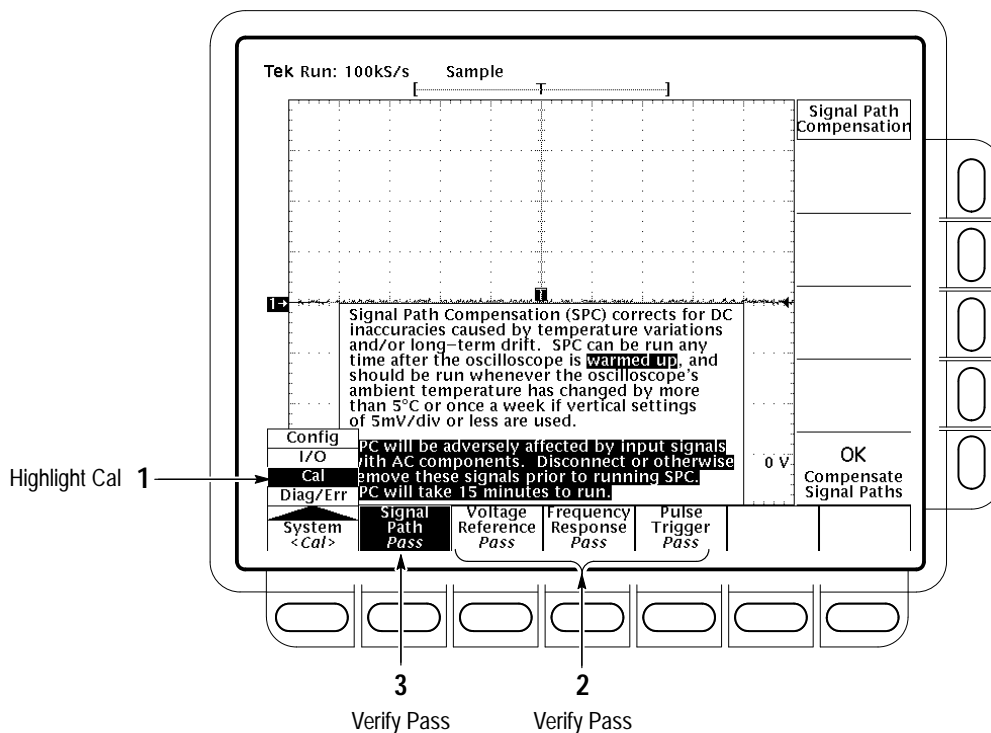

Figure 4–2: Verifying Adjustments and Signal-Path Compensation
- Refer to Figure 4–1: “Main menu” refers to the menu that labels the seven menu buttons under the display; “side menu” refers to the menu that labels
- Highlight **Cal** in the pop-up menu by repeatedly pressing the main-menu button **System**. See Figure 4–2.
- Verify that the word *Pass* appears in the main menu under the following menu labels: **Voltage Reference**, **Frequency Response**, and **Pulse Trigger**. See Figure 4–2.
- h. *Confirm signal-path compensation returns passed status:* Verify that the word *Pass* appears under **Signal Path** in the main menu. See Figure 4–2.
- The vertical scale readout for the channel under test shows a setting of 200 mV, and a square-wave probe-compensation signal about 2.5 divisions in amplitude is on-screen. See Figure 4–1 on page 4–3 to locate the readout.
a. *Hook up the signal source:* Install the probe on **CH 1**. Connect the probe tip to **PROBE COMPENSATION SIGNAL** on the front panel; connect the probe ground to **PROBE COMPENSATION GND**. See Figure 4–3 on page 4–8.